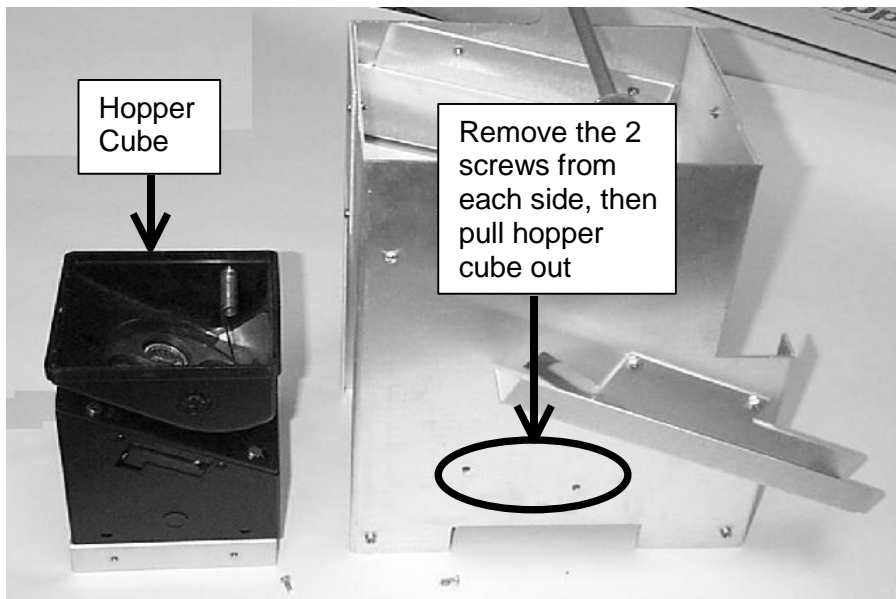

Figure 25. Hopper View - Side Screw and Internal Hopper - Cube
4. Once you have removed the hopper from the Wash Select II case, you can remove the two screws that are holding the black, plastic hopper cube. (See Figure 25, below.)